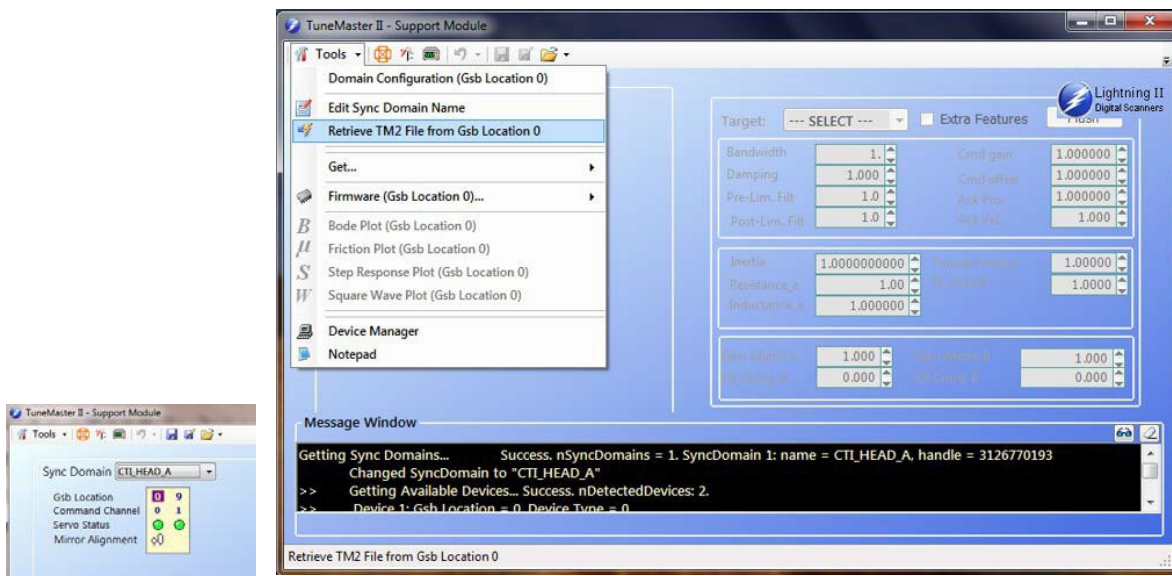

Figure 1 - Highlight Gsb Location 0 (left) and Retrieve Tune (right)
1. Highlight 'GSB location 0' (X axis), click the 'Tools' menu. In the dropdown list, select 'Retrieve TM2 files from Gsb Location 0' (Figure 1). A pop-up window will ask you to save the tune file to a location of your choice. After that, you can proceed to get BodePlot.